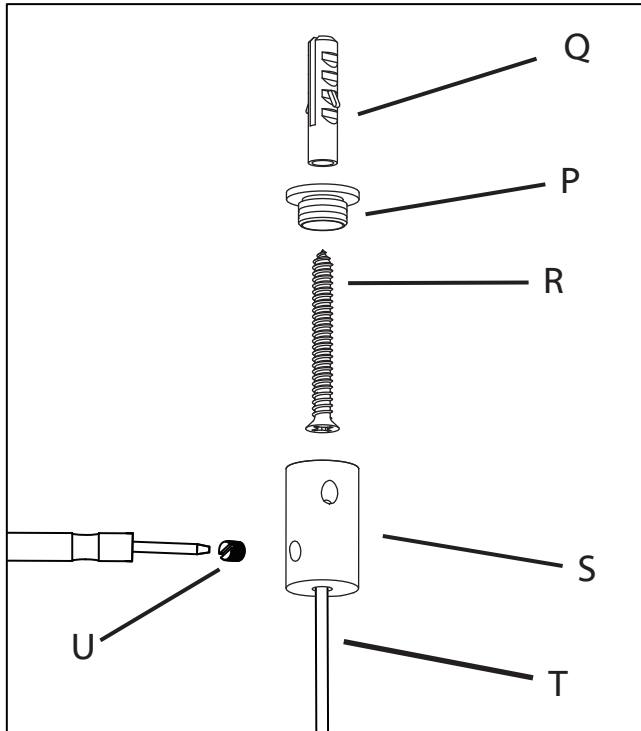
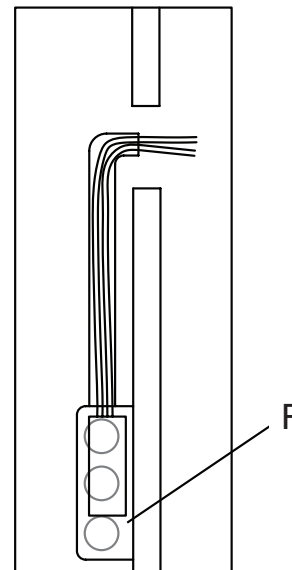
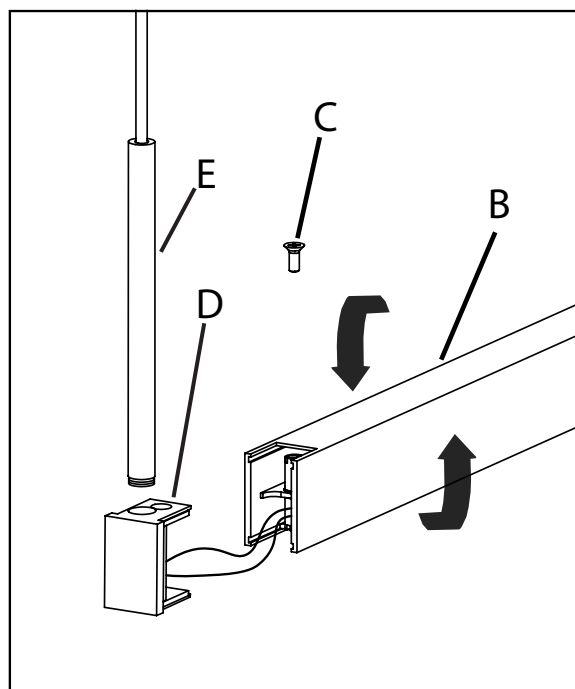

Fig. 3
Fig. 2
Fig. 1
1. Shut off power to the outlet box (A).
2. **OPTIONAL:** To convert the fixture (B) from downlight to uplight, remove bracket screw (C) on one end, flip the fixture and slide bracket (D) back in and secure with bracket screw. Repeat for the other end (Fig. 1).
3. Screw the stem (E) into the bracket (D). Repeat for the other end (Fig. 1).
4. The LED driver (F) must be installed in a remote and accessible location near the fixture in accordance with local electrical code (Fig. 2).
- c. Connect the LED driver's positive (+) output wire (red) to the necessary length of red wire (not included) to reach the outlet box (A) location.
- d. Connect the LED driver's negative (-) output wire (black) to the necessary length of black wire (not included) to reach the outlet box (A) location.
5. Determine height at which the fixture (B) is to be hung, adjust power cord (G) to desired height and secure by tightening the set screw (H). Reserve extra cord in the canopy (J).
6. Attach the mounting plate (K) to the outlet box (A), secure with outlet box screws (L).
- c. Carefully place the connections in the outlet box (A).
8. Install the canopy (J) to the mounting plate (K) and secure with canopy set screws (M) using the provided Allen key (N).
9. Install the mounting bracket (P) to the ceiling with anchor (Q) and screw (R), then screw the post (S) onto the mounting bracket. Insert the cord (T) into the post, adjust to the desired height, and secure by tightening the set screw (U). Cut off the excess cord where it exits the post. (Fig. 3)
10. Restore power to the outlet box (A).
2. Screw the stem (B) into the bracket (C). Repeat for the other end.
3. The LED driver (D) must be installed in a remote and accessible location near the fixture in accordance with local electrical code (Fig. 1).
- d. Connect the LED driver's (D) negative (-) output wire (black) to the necessary length of black wire (not included) to reach the outlet box (A) location.
4. Determine height at which the fixture (E) is to be hung, adjust power cords (F) to desired height and secure by tightening the set screws (G). Reserve extra cord in the canopies (H).
5. Attach the mounting plate (J) to the outlet box (A), secure with outlet box screws (K).
7. Install the canopy (H) to the mounting plate (J) and secure with set screws (L) using the provided Allen key (M).
9. **For 2818-8 & 2818-8-J20 ONLY:** For the center support, install the mounting bracket (N) to the ceiling with anchor (P) and screw (Q), then screw the post (R) onto the mounting bracket. Insert the cable (S) into the post and adjust to the desired length: to shorten, push the cable up; to lengthen, push in the plunger while pulling down on the cable, release the plunger to lock. Cut off the excess cable where it exits the post. (Fig. 2)